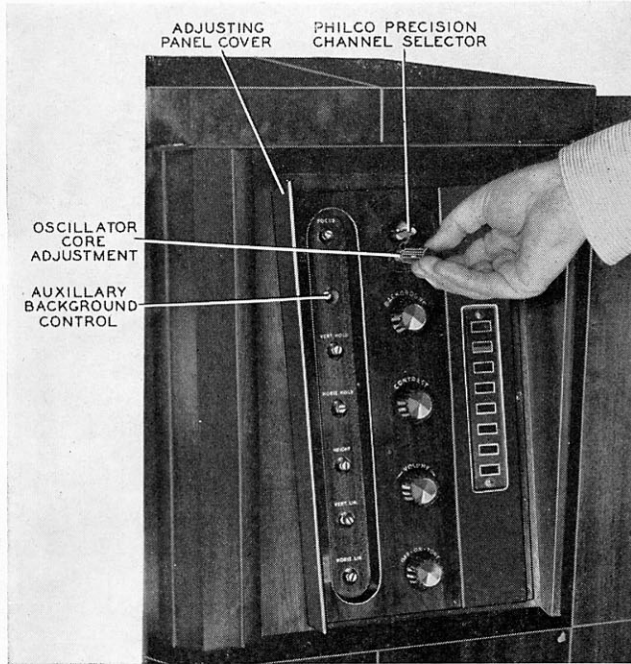

FIGURE 9. Front Controls TP-3660
3. Set the Philco Precision Channel Selector (figure 9) to the station channel to be used for adjustments. Turn the OFF-ON-TONE control to ON, and adjust the VOLUME control for a desirable level. Allow the Receiver to warm up for about 20 minutes.
5. Remove the "Philco Precision Channel Selector" knobs, and turn the core of the oscillator coil (figure 9) in a clockwise direction for a positive voltage indication; then turn it in a counterclockwise direction for a negative indication, noting the zero or cross-over point. Then adjust it for a .5 volt indication in the positive direction.
13. Adjust the "auxiliary background" control (location shown in figure 9) for a beam current of 70 to 80 microamperes.